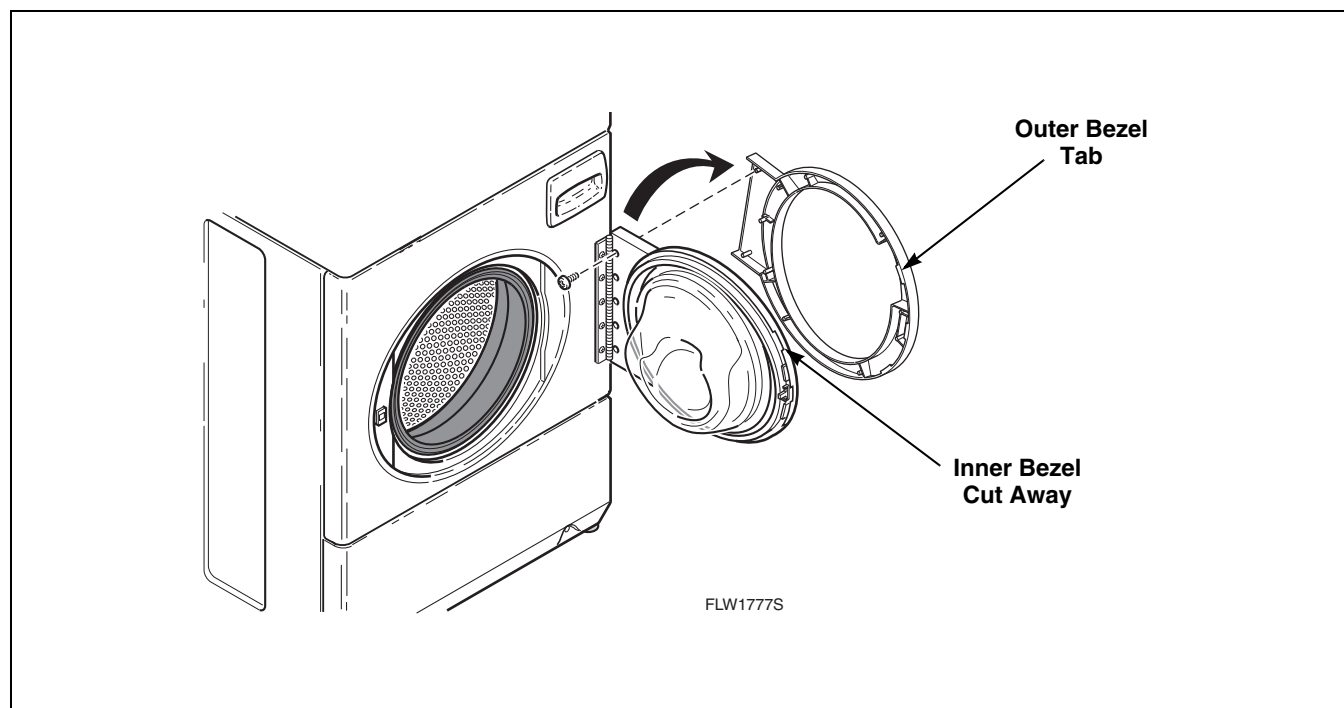

Figure 8
- Remove 11 T-20 Torx head screws holding outer door bezel to inner door bezel. Refer to *Figure 8*.
- Pull hinge side of outer bezel away from door and slide forward. Refer to *Figure 8*.
- Reinstall outer door bezel by aligning outer bezel tabs with cut aways on inner bezel and sliding outer bezel into position. Refer to *Figure 8*.